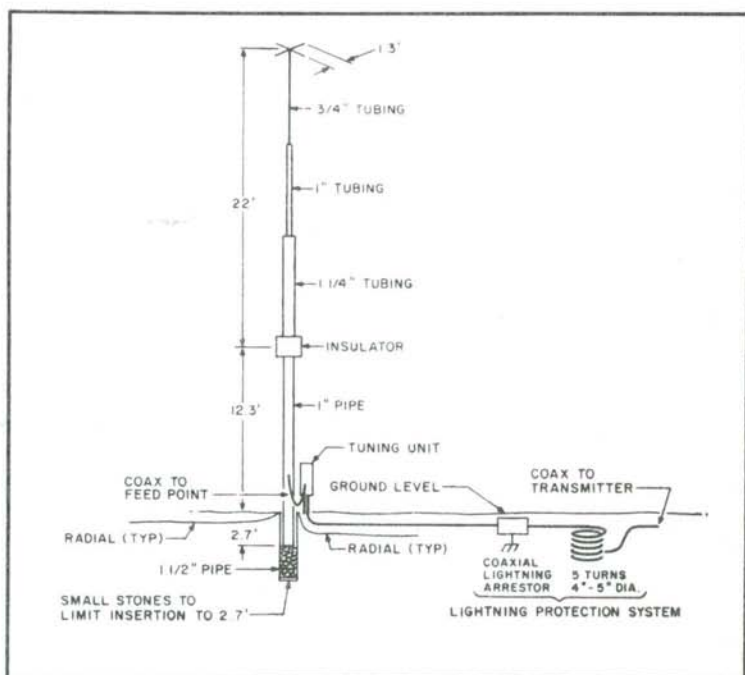
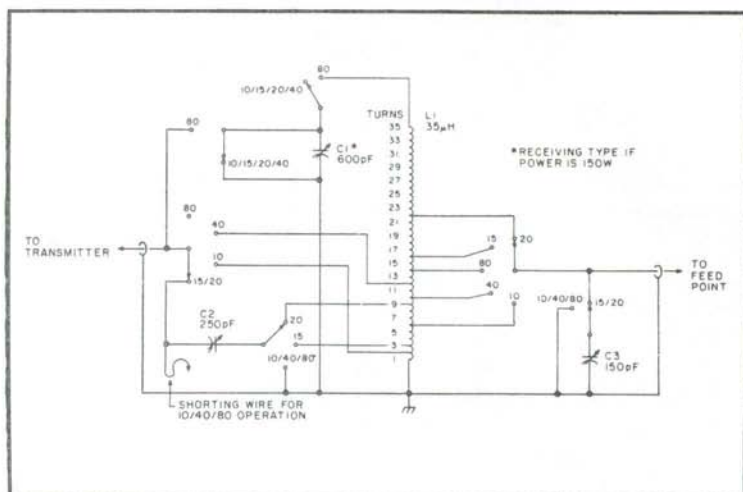

Fig. 7-7. Final design of the elevated-feed vertical antenna.
Fig. 7-8. Antenna tuning unit set for 20 meters. All air variables not in use are shorted and grounded.
The final design of this antenna is shown in Fig. 7-7, and the tuning unit is shown in Fig. 7-8.
The schematic of the tuning unit is shown in Fig. 7-8. The unit is installed next to the antenna, but not grounded to it. It is grounded only to the shield of the coaxial cable.
(1) Connect the swr meter in the line between the transceiver and a dummy load.
(2) Tune the transceiver as usual for maximum output on the 80-meter band. Adjust the swr meter sensitivity for a full-scale forward power indication.
(3) Do not change any of the transceiver or swr meter settings. Switch the swr meter to read reflected power.
(4) Disconnect the dummy load and connect the tuning unit in its place.
(5) Using the turns ratio in Fig. 7-8 as a guide, connect the appropriate wires to the coil using alligator clips or equivalent.
(6) Position all tuning unit switches to 80 meters and adjust all air variable to *minimum* capacitance.
(7) Watching the swr meter, place the transceiver in the transmit mode. The swr meter may show anything from an off-scale reading to an swr of 1:1.
(8) Not changing any of the settings on the transceiver or the swr meter, note the swr reading. Place the transceiver in the standby mode.
(9) If the swr was high, adjust the taps on the coil and repeat steps 7 and 8. If the swr was low (swr meter deflection is $\frac{1}{2}$ - $\frac{2}{3}$ scale, equivalent to an swr of about 3:1 to 5:1), leave the taps alone and adjust the air variable for an swr of 1.3:1 or lower.
(10) Repeat steps 7 to 9 until the swr of 1.3:1 or lower is obtained. Record all settings for future reference.
(11) Repeat this procedure for the other bands.
After installation and tuning, connect the antenna to the shack by using buried RG-8 coaxial cable. Install the lightning protection system as shown in Fig. 7-7. It consists of a coaxial lightning arrestor grounded to a 5'-6' ground rod, followed by the turns in the coax. Tape the arrestor well with electrical tape to prevent moisture damage.